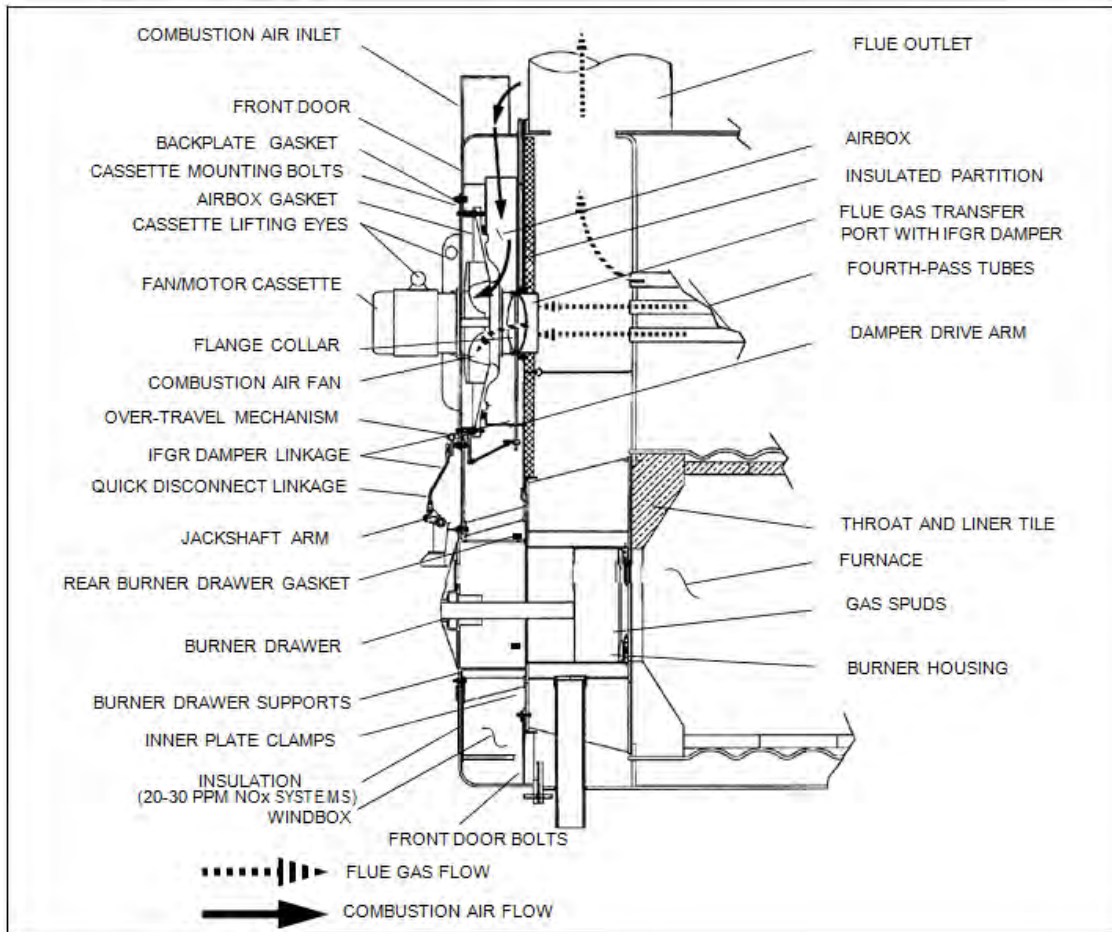

FIGURE 1-10. Induced Flue Gas Recirculation System, General Arrangement
11. Burner Drawer (**Figure 1-10**): The gas spudding pattern for the IFGR system may be different than that of a non-IFGR, High-Turndown CBR Burner of the same horsepower (HP) model designation.
12. Combustion Air Inlet (**Figure 1-10**): The combustion air inlets are located at the top of the front door. Air enters from the rear of the air inlet shrouds, which reduces the sound level and captures heat from the boiler and stack flue outlet.